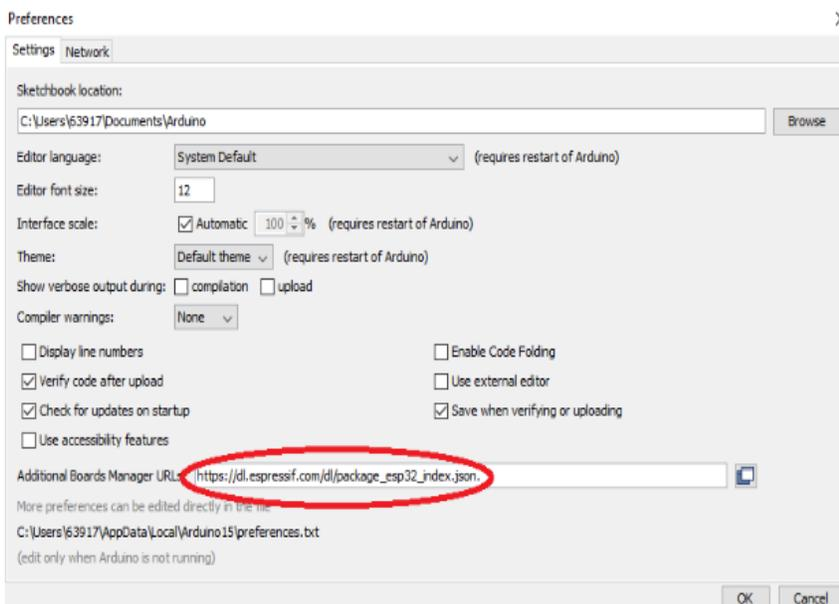

Figure 2.17: Step 2 Installing ESP32 or ESP8266
- Refer Figure 2.17 Go to *File > Preferences*.